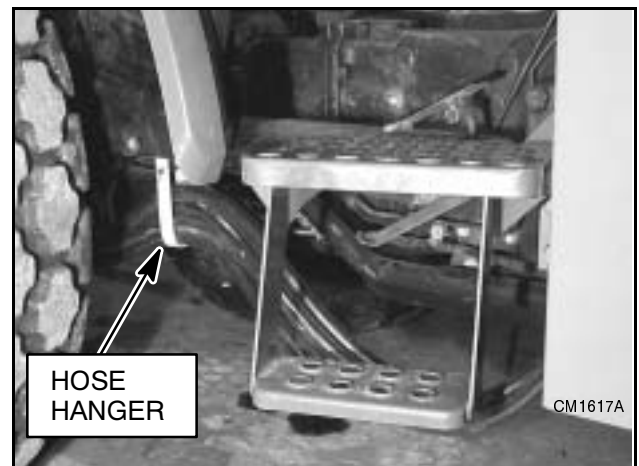

**Figure 7** Hose Connections to Tractor Hydraulic Couplers
2. Connect hydraulic hoses to tractor hydraulic couplers as shown in Figure 7.